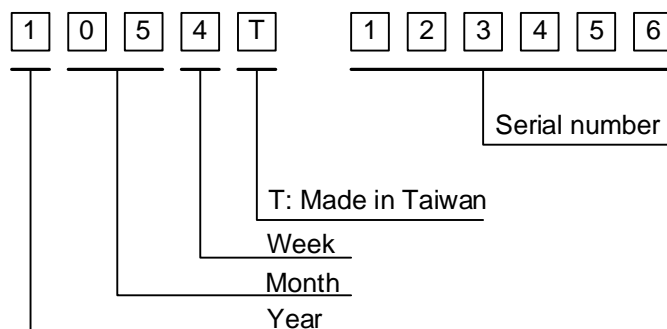

Fig. 10.1
- 1) The lot mark is showing in Fig.10.1. First 4 digits are used to represent production lot, T represented made in Taiwan, and the last 6 digits are the serial number.